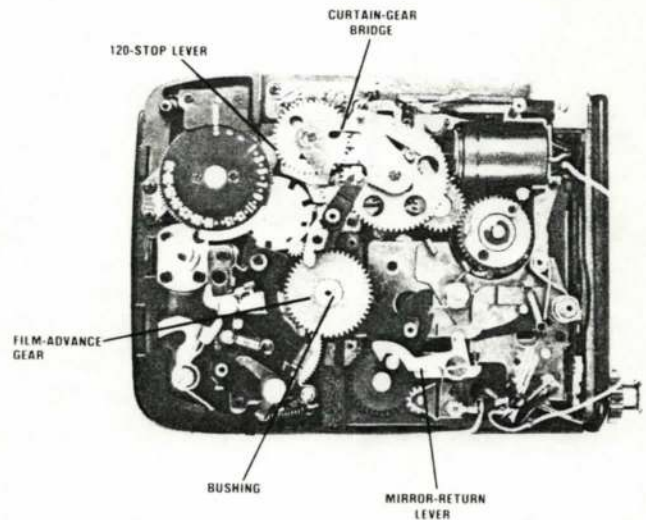

Figure 7
You can now take off the upper plate of the winding base unit by removing the five screws holding the plate (the small screw goes next to the trigger switch). Fig. 7 shows the upper plate removed. Alternately, you can remove the complete winding base unit as a module:
9. disconnect the mirror-return-lever spring (Fig. 7)
It's possible to adjust the overlap without removing the winding base unit. Loosen the three screws holding the curtain-gear bridge (Fig. 7). You can then lift the first-curtain gear high enough to disengage it from the winding-roller pinion.
The 220 insert should allow the counter dial to reach the "30" calibration. You can check the action without having the 220 insert. After the counter dial has reached "15," hold the 120-stop lever (Fig. 7) disengaged (away from the counter dial). You should then be able to continue cocking and releasing the shutter until the counter dial reaches "30." But the counter dial should not advance beyond the "30" position.